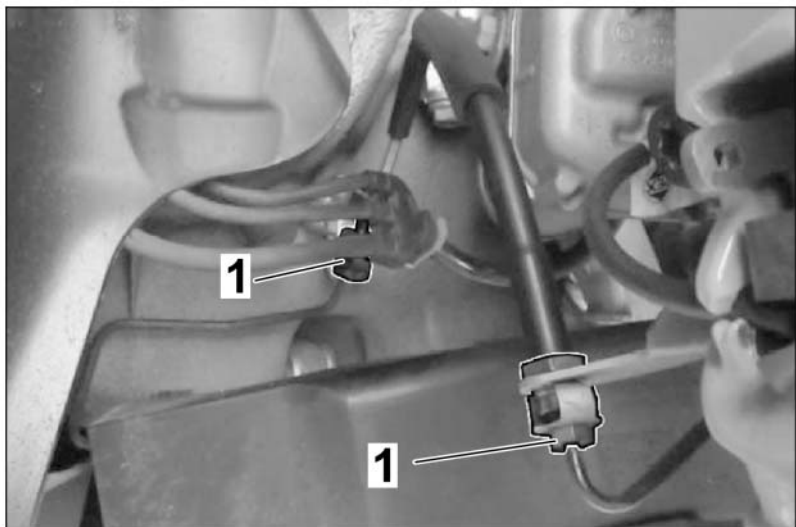

Fig. 21 (sample illustration)
- 1. – Loosen the screw connection of the brake line ⇒ *Fig. 21 (sample illustration) -1-* and remove the brake line.